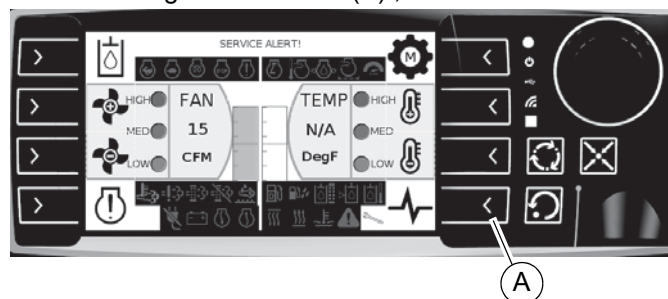

Figure 4-3. Service Alerts Page
1. See Figure 4-3. On the Service Alerts page, press the Diagnostics button (A),